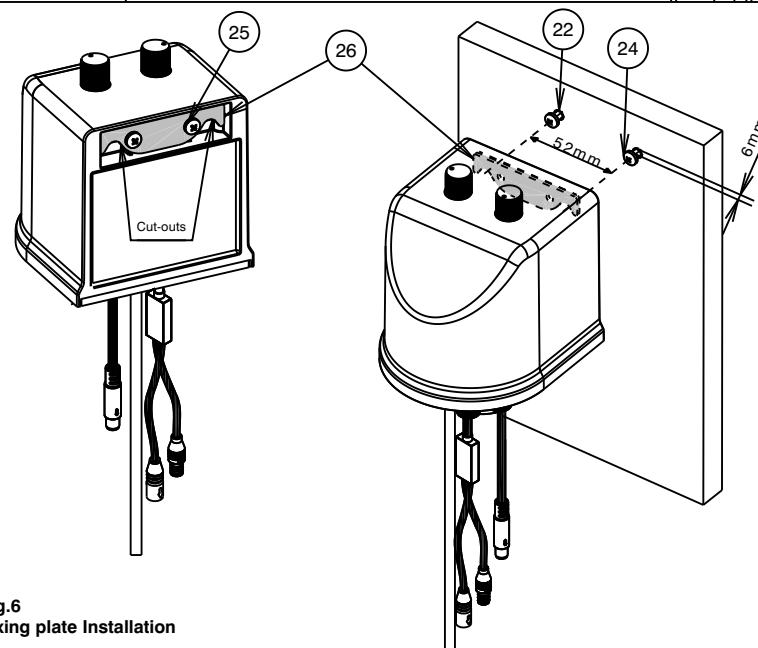

Fig.6
- i) Remove the screws (25) using a phillips head screw driver.
- ii) Remove the wider fixing plate (23) and put it aside.
- iii) Take the narrower fixing plate (26) out of the bag, fit it at the back of the control unit (12) by aligning the holes on the fixing plate (26) with the holes at the back of the control unit(12). The cut-outs on the plate should be towards the bottom, as shown in Fig.6.
- iv) Fit the screws (25) and tighten, DO NOT OVERTIGHTEN.
- i) Drill two $\Phi 6$ mm holes, 52mm apart and 40mm deep horizontally as shown in Fig. 6.
- ii) Insert small end of wall plugs (22) into drilled holes and tap until flush with wall/tile face.
- iii) Insert screws (24) into wall plugs, screw them until the head is 6mm away from wall/tile face as shown in Fig. 6.
- iv) Mount the control unit (12) onto the screws (24).
- i) Drill two holes at 52mm apart horizontally to suit the self tapping screws supplied as shown in Fig. 6.
- ii) Insert screws (24) into the holes and screw them until the head is 6mm away from wall/tile face as shown in Fig. 6.
- iii) Mount the control unit (12) onto the screws (24).